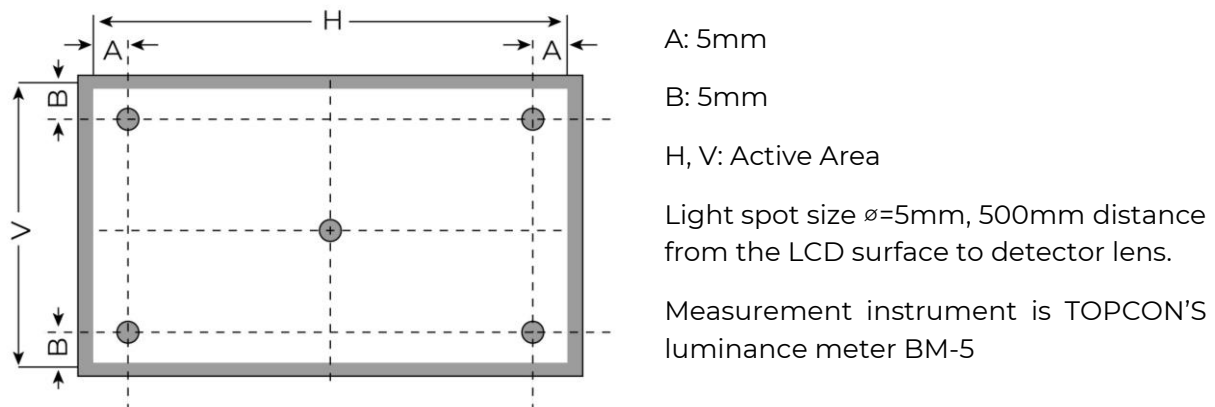

Figure 3. Measuring method for Contrast ratio, surface luminance, Luminance uniformity, CIE (x, y) chromaticity
| Contrast Ratio          | Cr             |  | 800   | 1000  | -     | ---               | FIG 3. | 1    |
| CIE (x, y) Chromaticity | Rx             | $\theta=0^\circ$$\phi=0^\circ$$T_a=25^\circ\text{C}$ | 0.575 | 0.615 | 0.655 | -                 | FIG 3. | 5    |
**Note 1.** Contrast Ratio (CR) is defined mathematically as below, for more information see Figure 3.
**Note 2.** Surface luminance is the LCD surface from the surface with all pixels displaying white. For more information see Figure 3.
**Note 3.** The uniformity in surface luminance  $\delta$  WHITE is determined by measuring luminance at each test position 1 through 5, and then dividing the minimum luminance of 5 points luminance by maximum luminance of 5 points luminance. For more information see Figure 3.